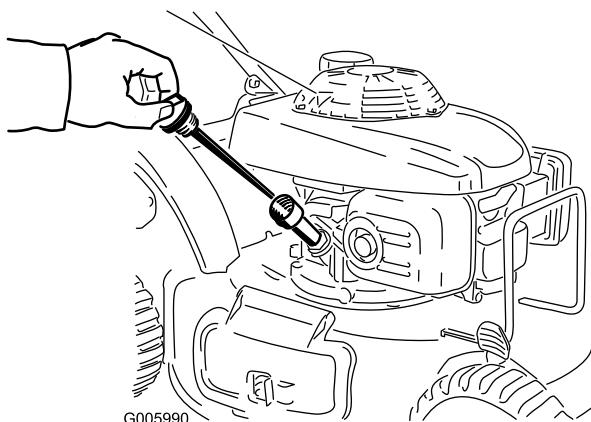

Figure 12
1. Remove the dipstick (Figure 12).
2. Slowly pour oil into the oil fill tube, periodically checking the level with the dipstick, until the dipstick indicates that the engine is full as illustrated in Figure 12. **Do not overfill.** (Max. fill: 20 oz. (0.55 l), type: SAE 30 detergent oil with an API service classification of SH, SJ, SL, or higher.)